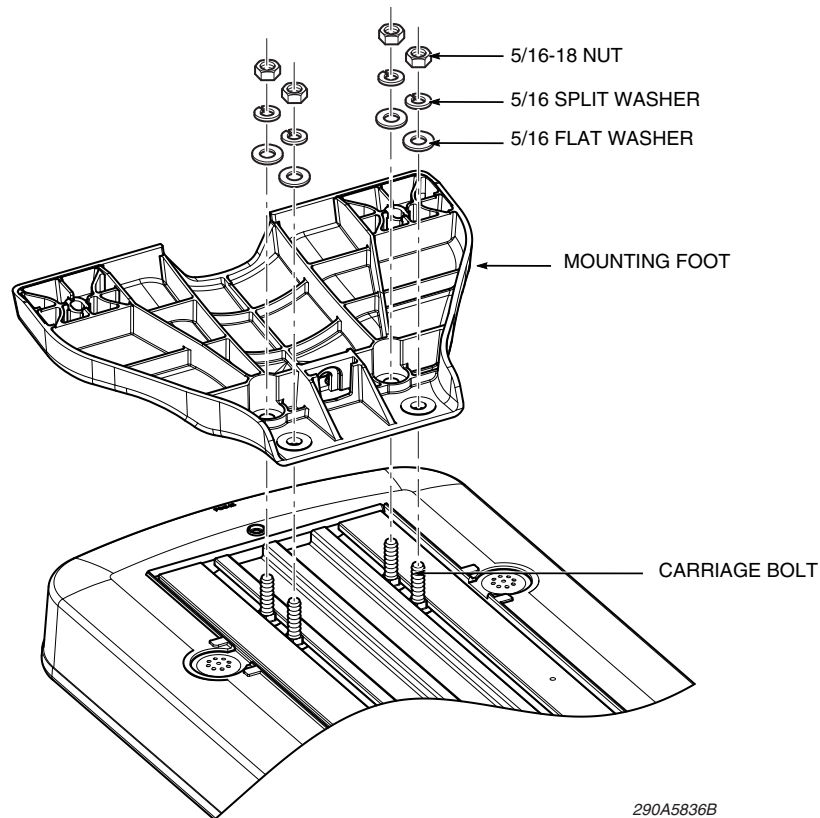

Figure 1: Hardware for installing the mounting foot
2. Insert two 5/16-18 carriage bolts into each track in the aluminum extrusion through the center access holes. Position the bolts to match the holes in the mounting foot (Figure 1).